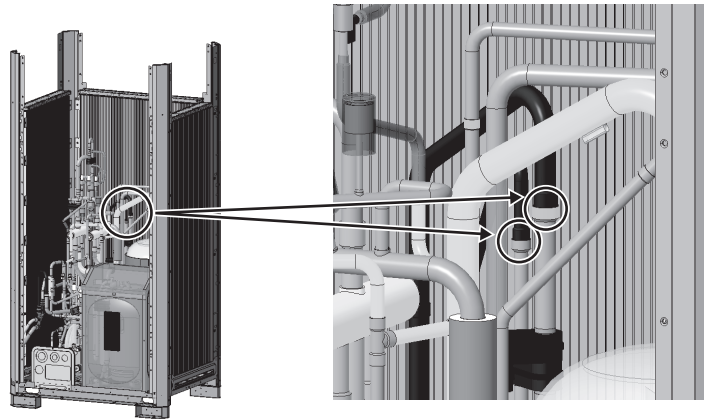

Fig. 46 Brazing point of the rear heat exchanger piping
(1) Remove the brazing from the piping. (Two areas to remove brazing: Fig. 46)